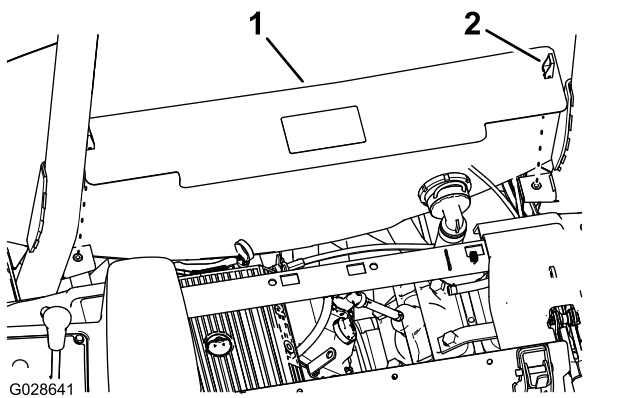

Figure 13
2. Release the 2 latches that secure the guard behind the seat to the chassis and remove the guard from the machine (Figure 13).